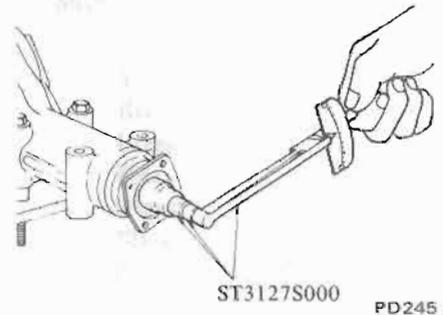

Fig. PD-5 Measuring pinion preload
4. Rotate gears to see if there is any roughness which would indicate damaged bearings or chipped gears. Check the gear teeth for scoring or signs of abnormal wear. Measure preload of drive pinion. See Figure PD-5.